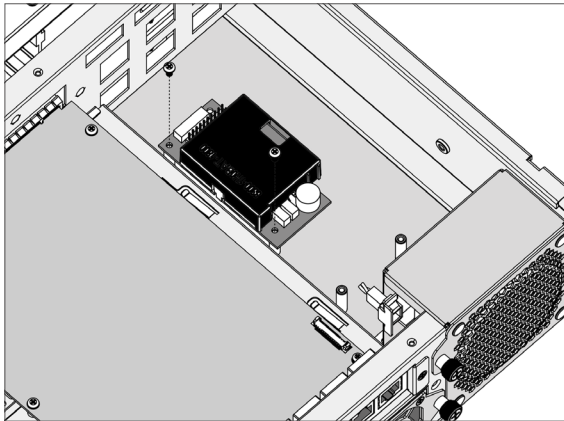

Figure B-3, Secure the Battery Module
2. After removing the cover, then secure the battery pack module (ARC-6120-BAT-12G, reference NO.1 in Figure B-1) in the bottom of the enclosure (for ARC-7308/ARC-7312), as shown in Figure B-3.